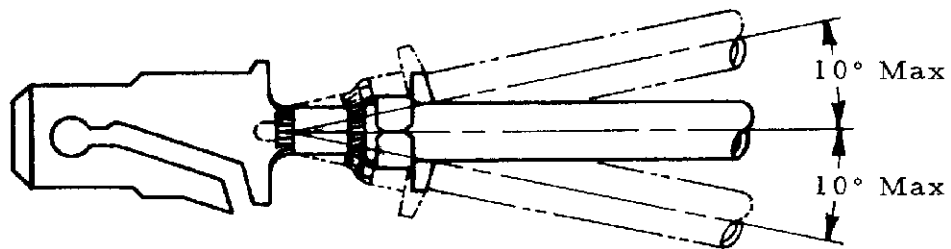

Figure 4.
(2) The side to side bending of the contact shall not exceed the limits specified in Figure 4.